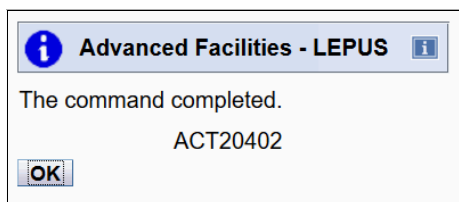

Figure 7-19 Export source file completed
7. The HMC task writes the source file for the PCHID that was selected onto the media device and displays a message when it completes (see Figure 7-19). Click **OK**.